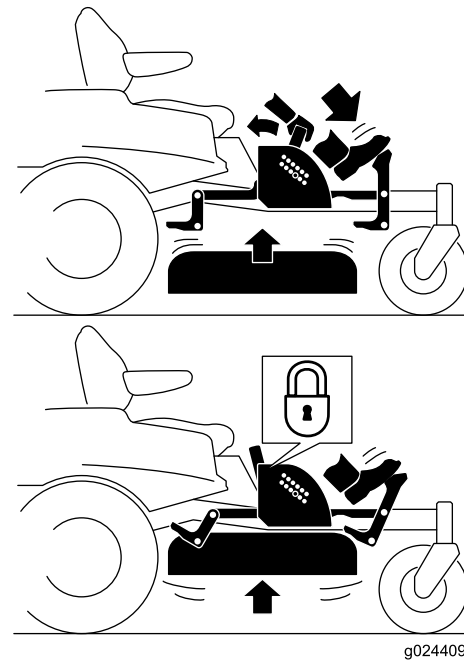

Figure 27
- Press the deck-lift pedal down to raise the deck; continue to press the pedal until the deck locks in the transport position (Figure 27).
- Push on the deck-lift pedal with your foot and pull the transport lock handle rearward to disengage the transport lock (Figure 27).
4. Push on the deck-lift pedal with your foot and pull the handle rearward to disengage the transport lock (Figure 27).